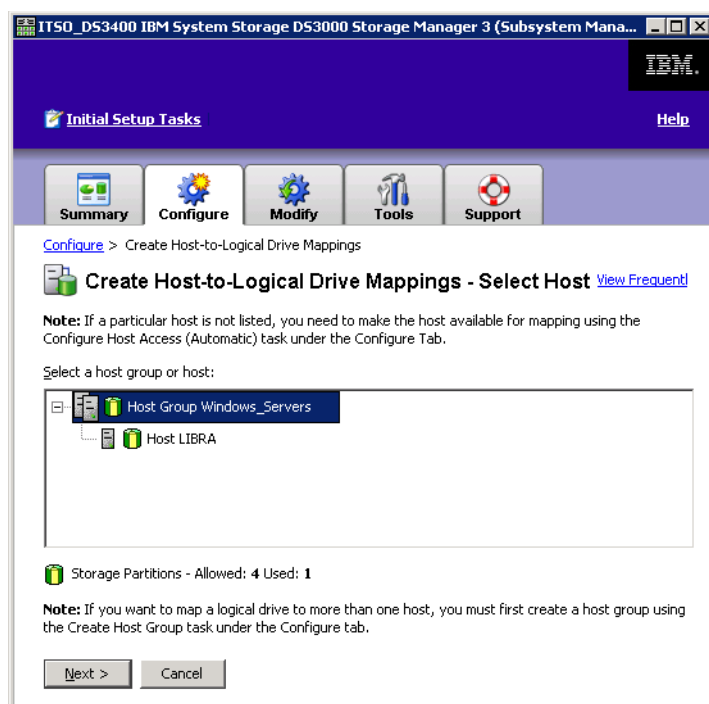

Figure 9-27 Storage Partitioning - Select Host
2. The wizard starts (Figure 9-27). Select the host or the host group that you want to assign to a logical drive. If you have not created all the required hosts and host groups yet, do this before continuing this wizard. You will see the current number of partitions used, and the maximum number of partitions allowed.
Select a host group (as in Figure 9-27) or a single host and click **Next**.